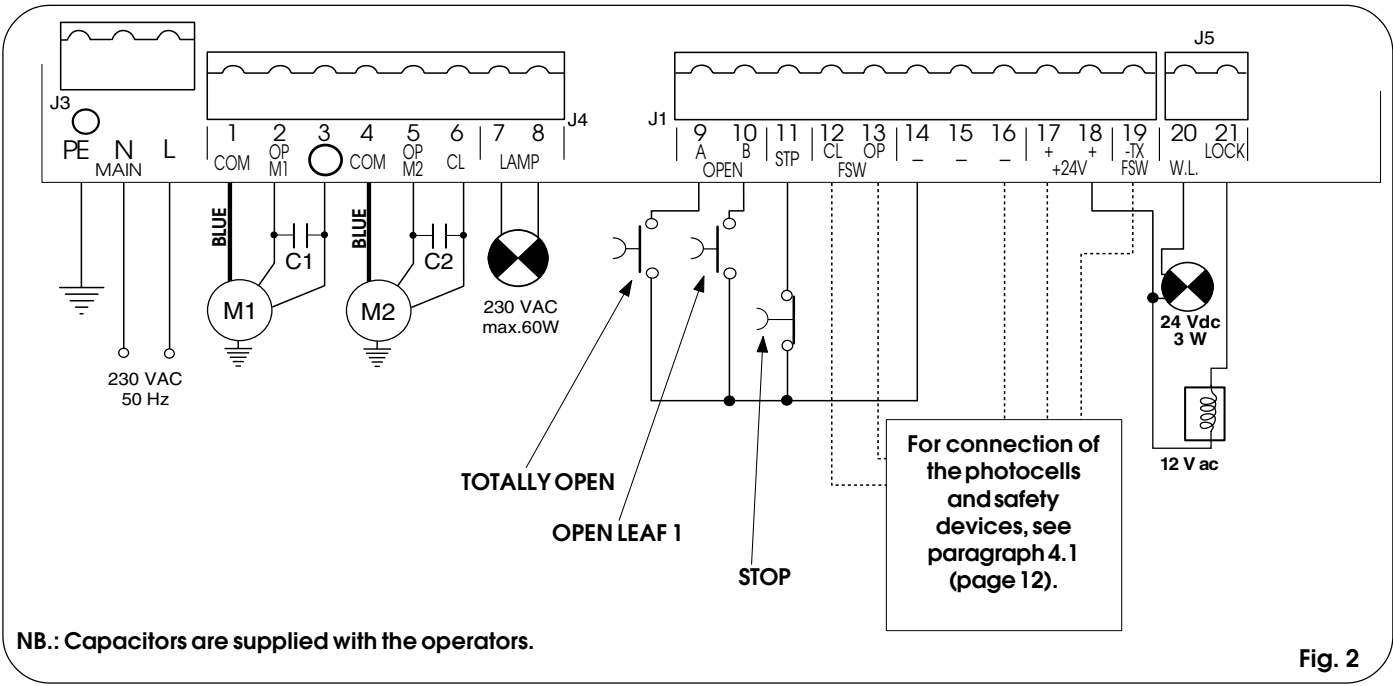

Fig. 2
- Connect the earth cable to the appropriate terminal on the J3 connector of the equipment (see fig.2).
4.2. Terminal board J3 - Power supply (fig. 2)
4.3. Terminal board J4 - Motors and flashing lamp (fig. 2)
4.4. Terminal board J1 - Accessories (fig. 2)
4.5. Terminal board J5 - Indicator-light and Electric lock (fig.2)
4.6. Connector J2 - Rapid connection (fig.2)